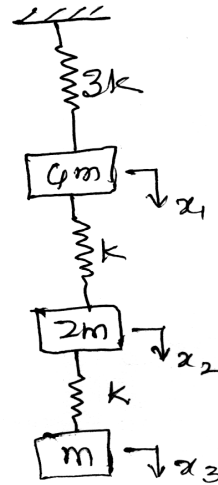

Figure 4
9. Determine the fundamental natural frequency for the system shown in Fig. 4 using matrix iterations method. 20